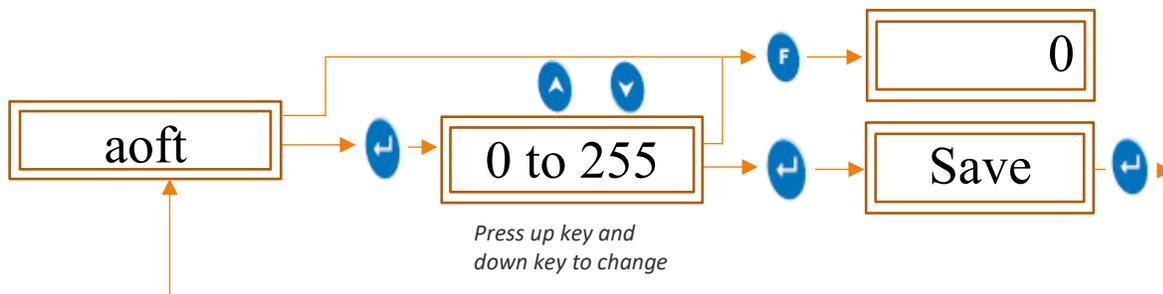

Figure 13 AOFT (Alarm off delay)
- To set the Alarm off time, follow the procedure shown in figure 13, by pressing the appropriate buttons given in the front panel of the Device.